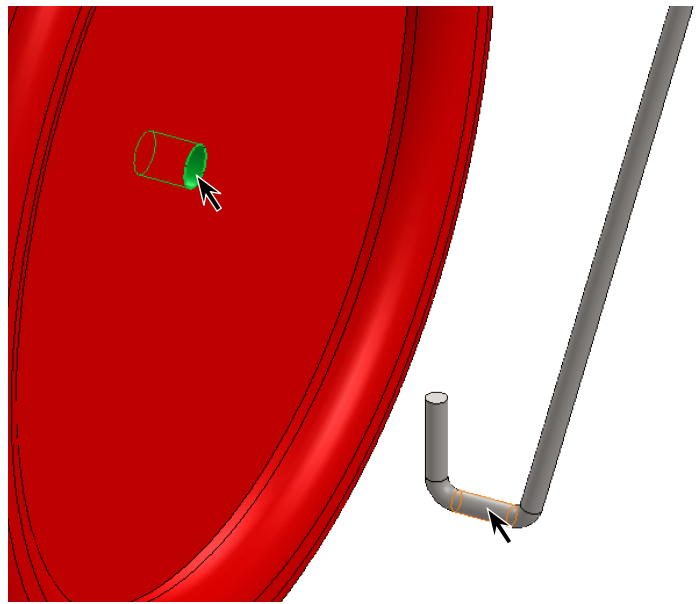

Fig. 9
Step 3. Repeat mates on left wheel. To repeat mates, click **cylindrical inside face of wheel hole** and **cylindrical face of horizontal section of wire**, Fig. 9.